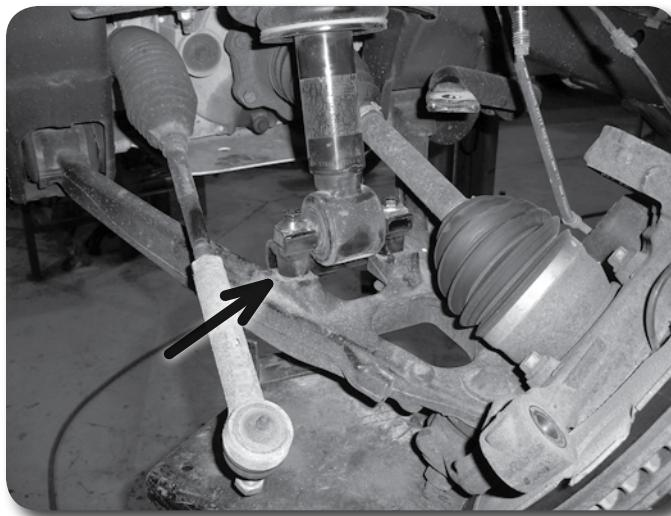

Figure 7
- Align the holes in the strut bar pin and the spacer. Install the provided 7/16" x 3-1/2" bolts with washers down through the bar pin and spacer. **Figure 7** Once the bolts are in position, align them with the holes in the control arm and raise the control arm up to seat the assembly together. Fasten the 7/16" bolts with the provided nuts and washers. Torque the 7/16" hardware to 45 ft-lbs.